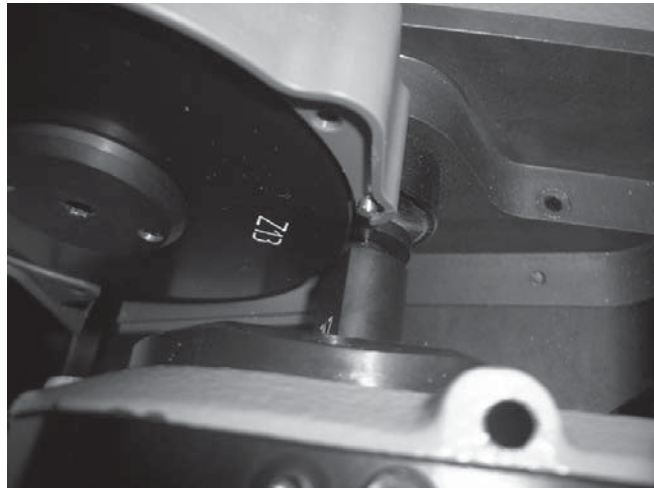

Fig. 117
6) manually move the X and Y axis up until the (Z12) and (Z13) templates make contact (fig. 117).